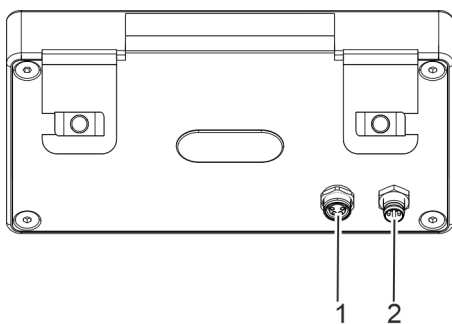

Fig. 62: MonTouch connections
1. ➔ Plug the power distribution cable of the parameterization unit into the connection (Fig. 62/2) on one side.
2. ➔ Plug the signal cable of the parameterization unit into the connection (Fig. 62/1) on one side.